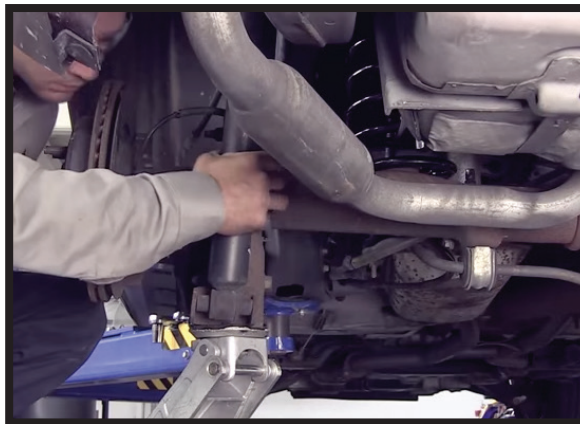

FIGURE 20-2
2. Using a floor jack, raise the rear axle. (FIGURE 20-2)